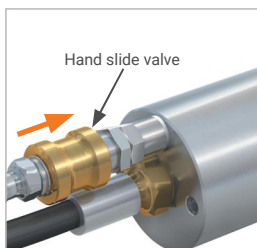

Figure 4
- ▶ Push the sliding sleeve of the hand slide valve (Pos. 6) to forwards (*Figure 4*). The pilot pressure is supplied. The elastic front seals (Pos. 7) are compressed, the connector tightens itself to the test piece and creates a pressure-tight connection.